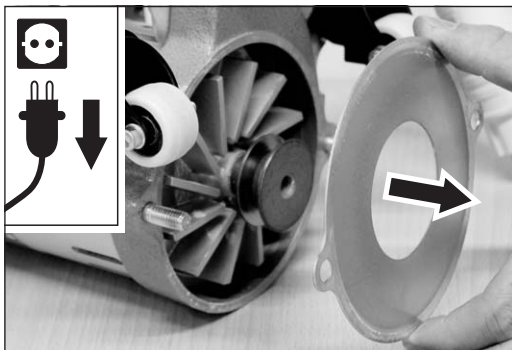

Fig. 45 Remove the fan cover.
- 3 Remove the fan cover (fig. 45).